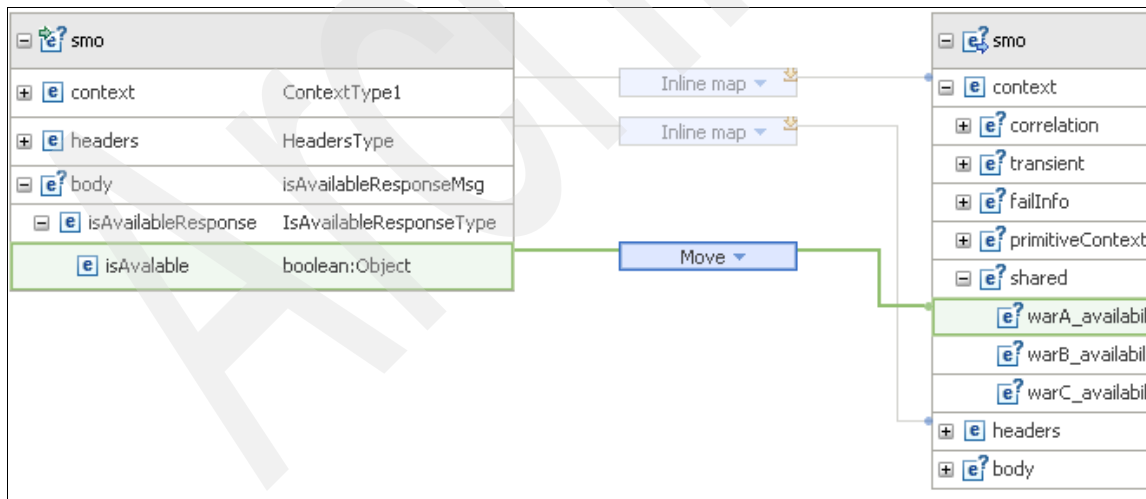

Figure 6-54 Aggregating Warehouse A availability to the shared context
- Go back to the original map (clicking the up arrow in the right upper corner of the Inline map editor twice). Wire the input message body → isAvailableResponse → isAvailable to the output message context → shared → WarA\_availability as shown in Figure 6-54.